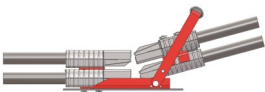

Figure 3
8. Insert Battery Connector Assembly into the Truck / Charger Assembly as shown (see figure 3).